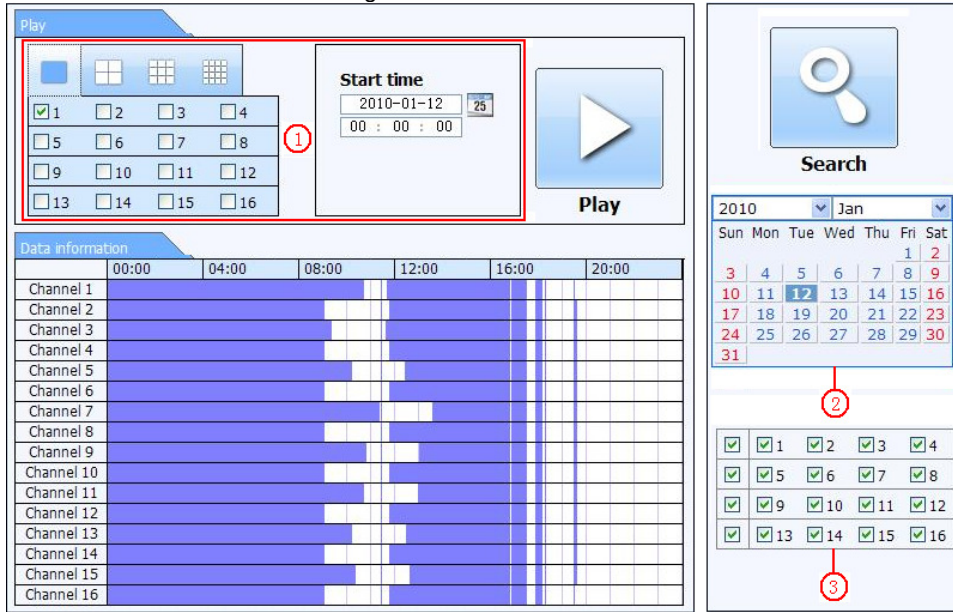

Fig 7-6 Time Search Interface
Step1: Enter into Search→Time search. Refer to Fig 7-6: